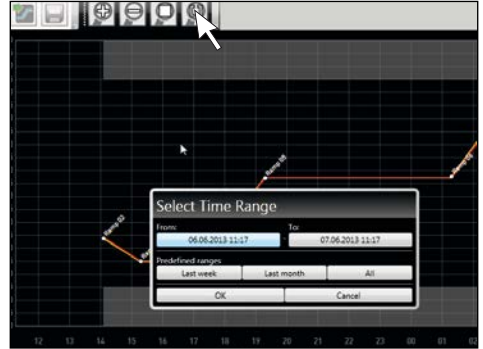

Fig. 9
- ▶ If you want to see a time range longer than two days, click on the rightmost symbol of the top toolbar (Fig. 9). This will open a window in which you can select the time range you want to see.